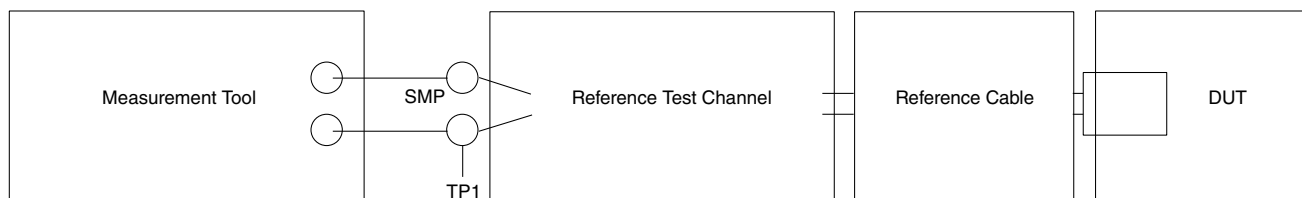

Figure 36. Tx normative setup
1. Measured at compliance TP1. See Figure 36 for details.